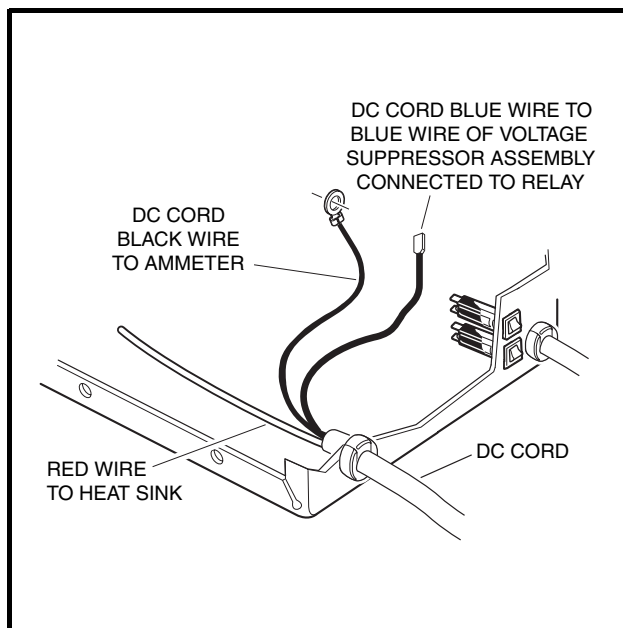
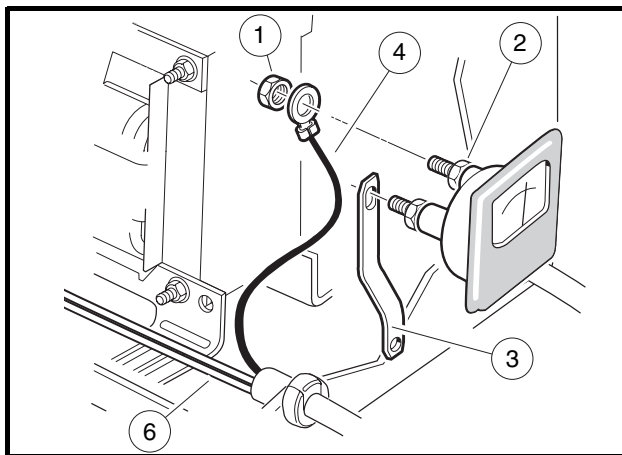

Figure 3-27 DC Cord
Figure 3-28 DC Cord Replacement
3. To check the continuity of the DC cord, disconnect the black wire of the DC cord from the ammeter (**Figure 3-27, Page 3-27**).
3. Remove the DC cord black wire (4) from the ammeter by loosening the nut (1). Support the terminal as the nut is loosened to prevent rotation of the connection (**Figure 3-28, Page 3-30**).
4. Remove nut attaching the red wire (6) of the charger DC cord to the heatsink.
5. Disconnect the DC cord blue wire from the blue wire of the voltage suppressor assembly connected to the relay (coil) terminal (**Figure 3-27, Page 3-27**).
2. Attach the red wire of the new DC cord to the center terminal of the heatsink and tighten the nut to 18 in-lb (2.0 N·m) (**Figure 3-27, Page 3-27**).
4. Attach the black wire (4) of the new DC cord to ammeter. Install nut (1) onto post of ammeter slightly more than finger tight. While holding the inside nut (2), tighten the outside nut (1) 1/4 turn (**Figure 3-28, Page 3-30**). **See following CAUTION.**